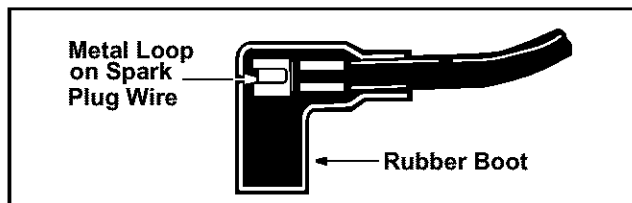

Figure 15
- Attach spark plug wire to spark plug. Make certain the metal loop on end of the spark plug wire (inside the boot) is fastened securely over the metal tip on the spark plug. See Figure 15.